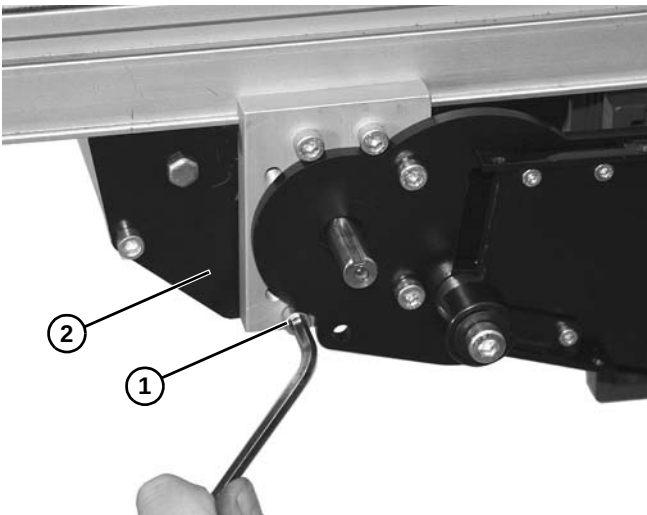

Figure 42
2. Remove two M6x25 socket head screws (Figure 42, item 1) from bottom of mid drive assembly (Figure 42, item 2).